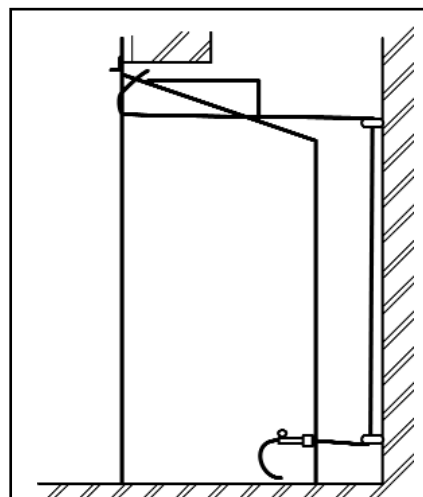

Figure 18. Cable route
6. Thread the cables through the eyebolts. Return the cables through the holes near the bottom of the convection box back panel (See figure 18) **(For precast or clay block flue systems return the cables through the slotted holes in the side of the convection box).**